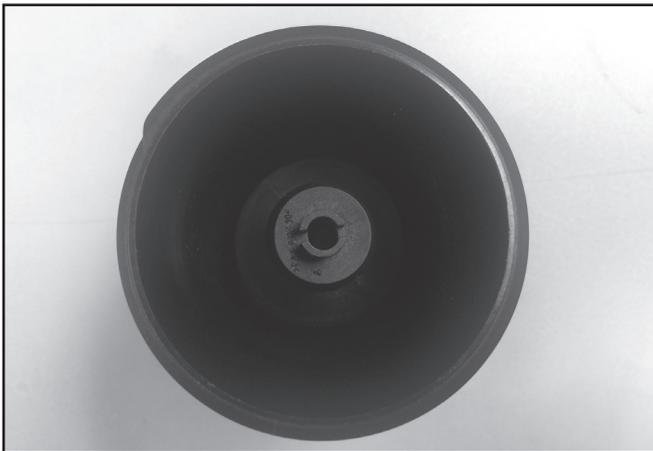

FIG. 2
- 2) 2014–2016 vehicles equipped with the 3.6L Pentastar engine feature a different by-pass valve, oil filter and oil filter housing. Instead of the by-pass valve being positioned in the oil filter housing as previously illustrated, it is now positioned in the oil filter cap (See Fig. 2).